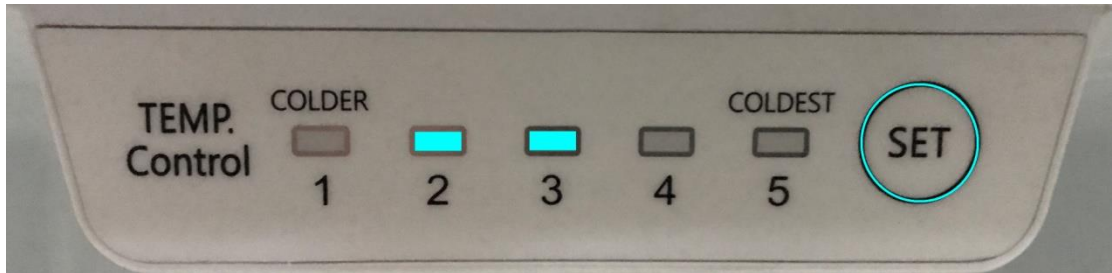

Figure 2-3
3. Defrosting sensor failure: LED2 and LED3, as shown in Figure 2-3;